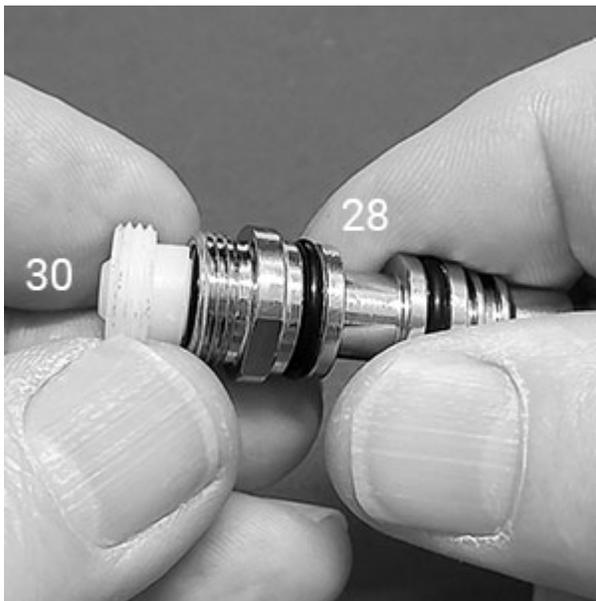
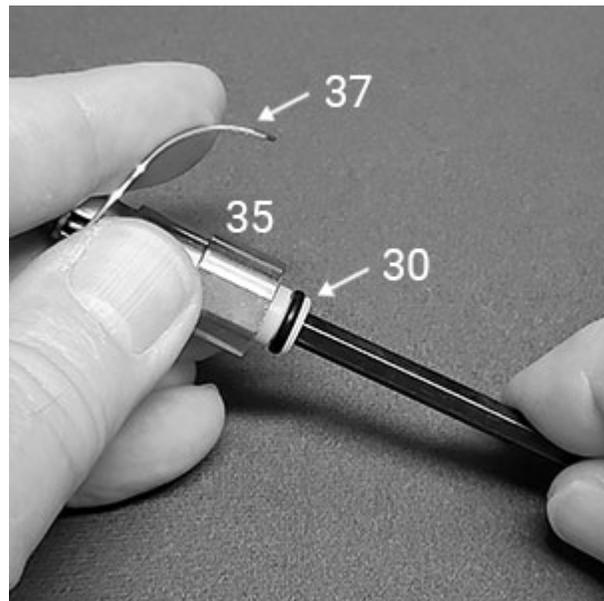

Fig. 21
Fig. 22
17. Pull the Crown Orifice (30) straight out of the Inlet Stem - Fig 21. If it remained behind inside the Valve Housing, apply pressure to the Lever and unscrew it completely with a 3/16" hex key - Fig. 22.